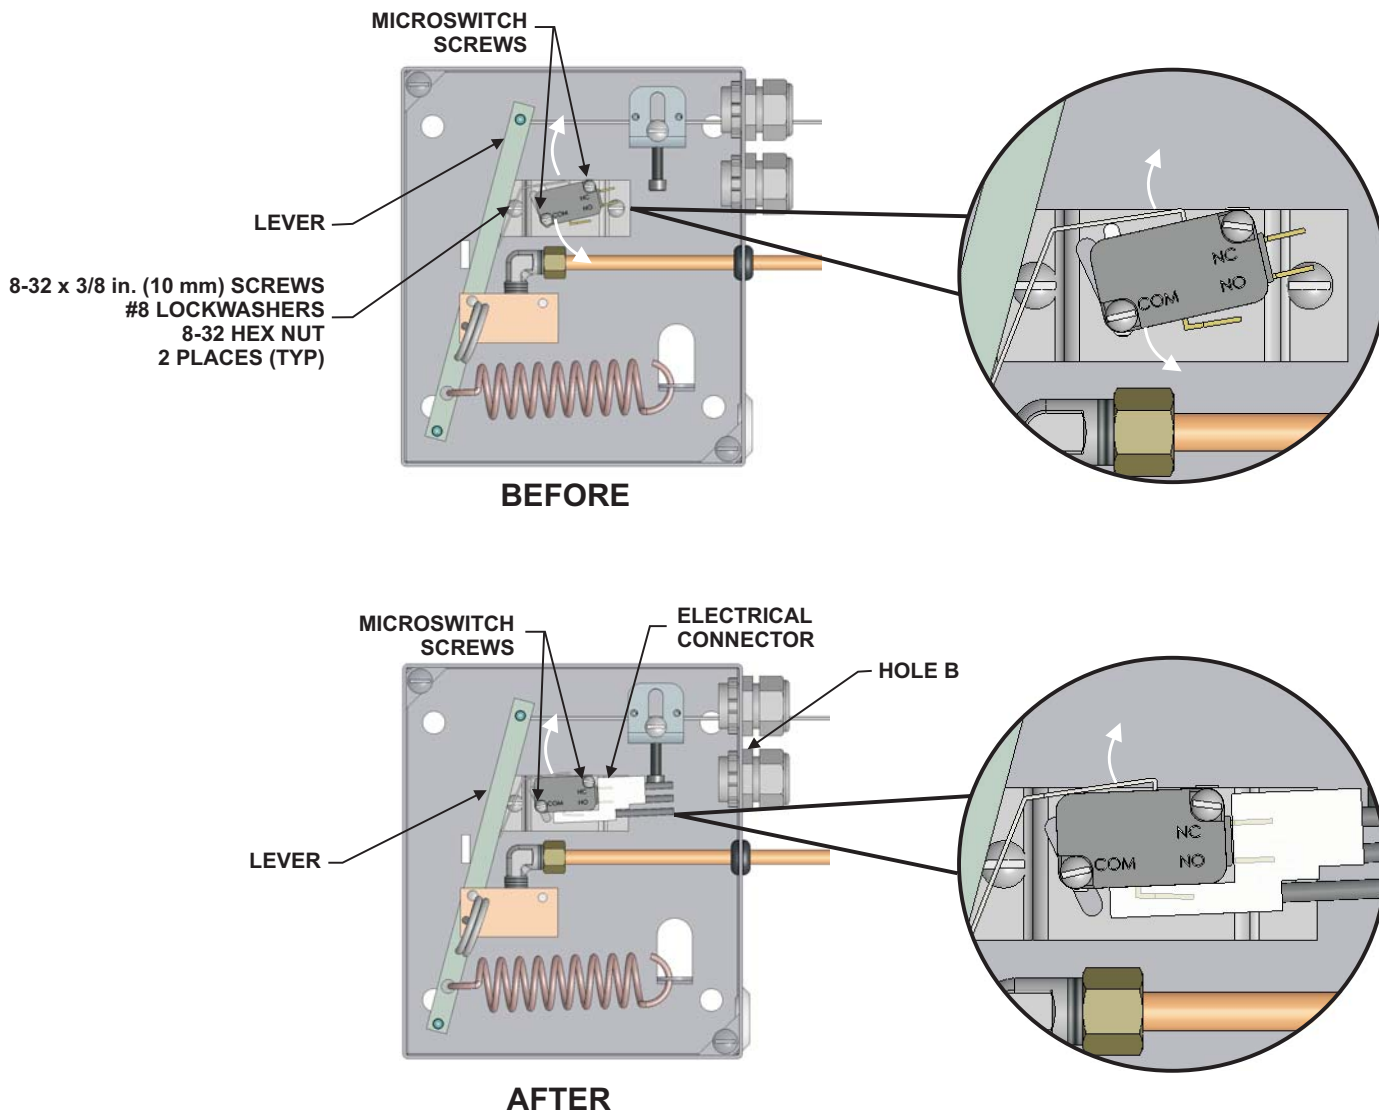

Figure 4-51. Dual SPDT Microswitch Installation
6. After tensioning the detection cable, rotate the microswitches toward the lever until you hear the microswitches click (Figure 4-51).
7. Continue moving the microswitches toward the lever until the paddle on the microswitches just touches the top corner of the microswitch bodies (Figure 4-51). The microswitches are now in the "set" position.